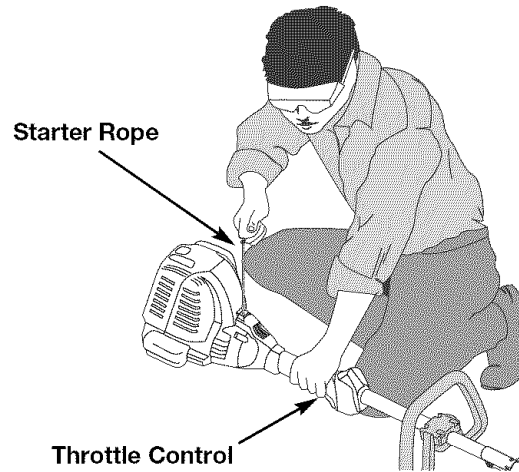

Fig. 8
WARNING: Avoid accidental starting. Make sure you are in the starting position when pulling the starter rope (Fig. 8). To avoid serious injury, the operator and unit must be in a stable position while starting.
6. Crouch in the starting position (Fig. 8). Squeeze the throttle control lever. Pull the starter rope briskly 5 times.